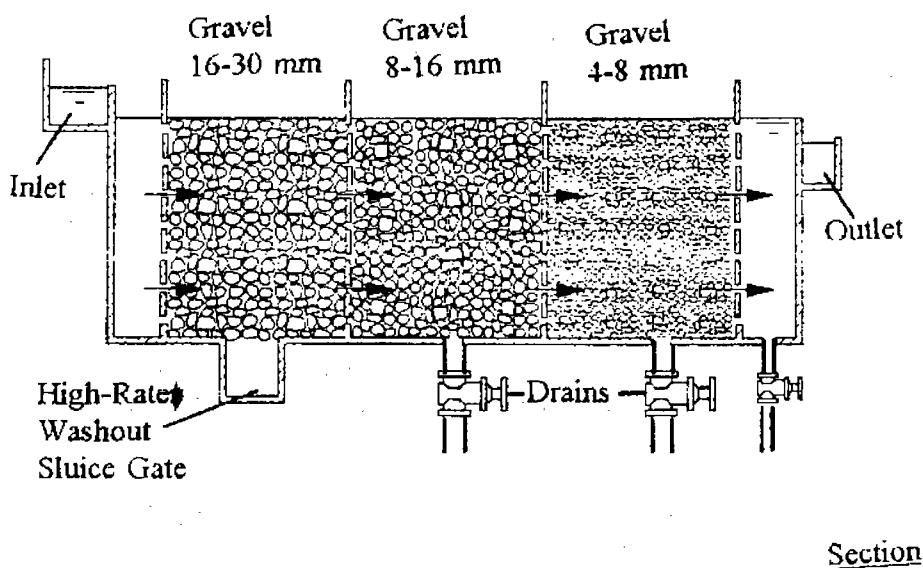
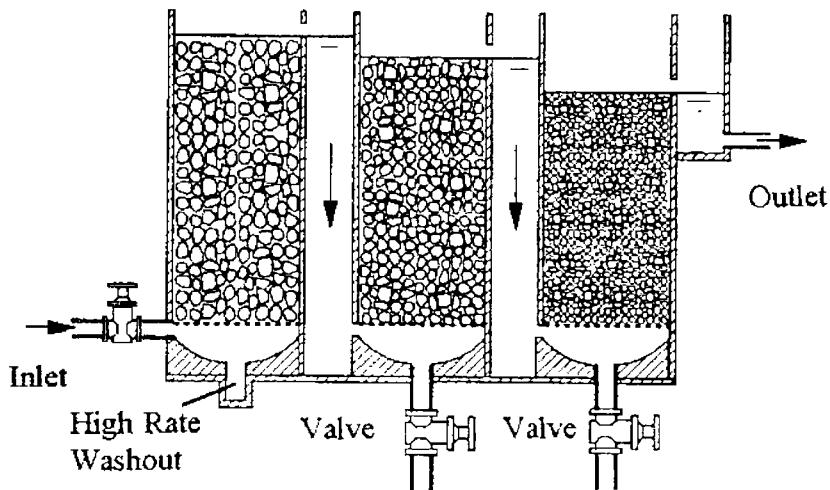

Figure 1. Horizontal gravel pre-filter
Figure 2. Upflow gravel pre-filter
- The largest size of gravel is used at the raw water inlet, and gravel size gets smaller towards the outlet of the filter (see Figure 1).
- Water flow in pre-filters may be horizontal (see Figure 1), vertical upflow (see Figure 2) or vertical downflow. The vertical upflow configuration is now preferred.